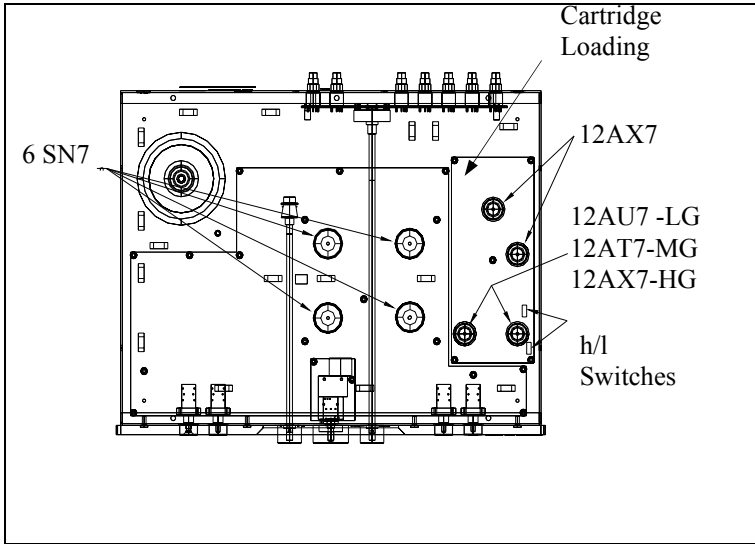

Figure 1
- 2) *Seating the Tubes* – It is possible for the tubes to loosen in their sockets during shipping. Using a glove or a clean dry cloth make sure that the tubes are fully seated in their sockets as shown in figure 1. Note the correct location and orientation of the tubes.
- 3) It is recommended that a new set of tubes be obtained from Rogue Audio. If tubes are obtained from another source, follow the diagram in figure 1 for tube type.
- 4) Insert new tubes in sockets using a glove or cloth. See figure 1 for locations.